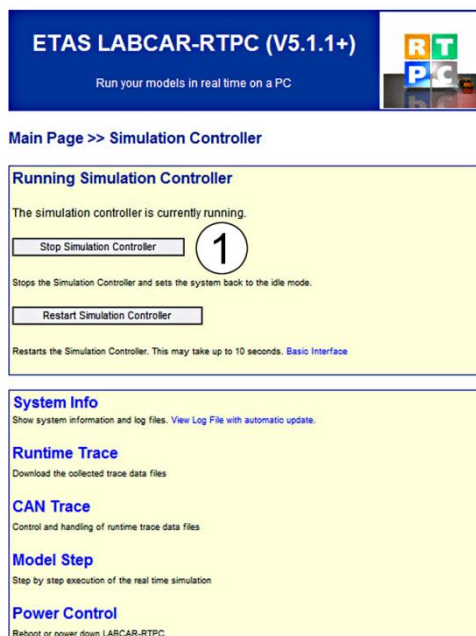

Fig. 4-1 Stop Simulation Controller (example)
- To stop the simulation controller (Fig. 4-1/1), refer to the RTPC help file.